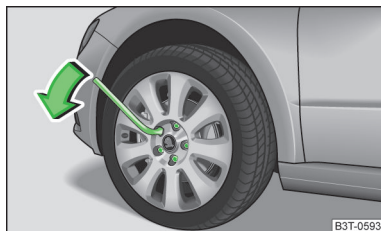

Fig. 177
- Grip the wrench at its end and turn the bolt about **one** turn in the direction of the arrow » Fig. 177.
- Grip the wrench at its end and turn the bolt against the direction of the arrow » Fig. 177 until it is tight.